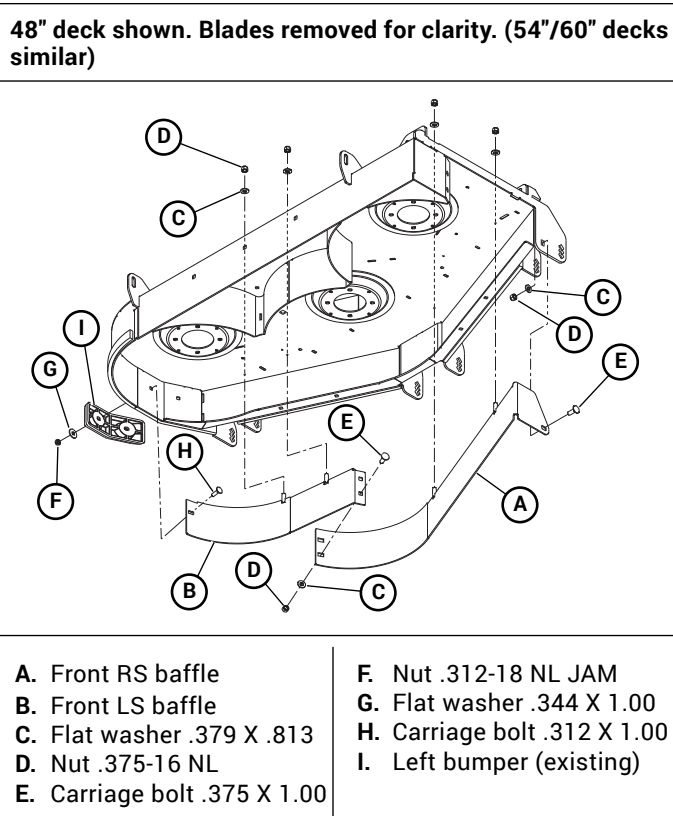

Figure 3-2
4. Remove the rear bolt, nut, and flat washer from the left bumper. Figure 3-2
5. Attach the front left baffle to the top of the deck. Using the hardware shown, attach the baffle to the left bumper. Figure 3-2
6. Attach the front right baffle to the top and side of the deck as shown. Figure 3-2
7. Attach the two baffles together. Figure 3-2